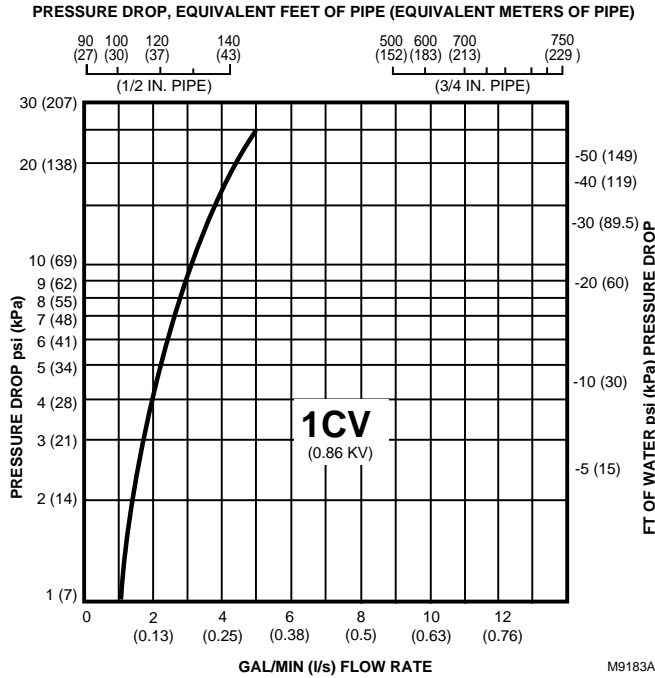

Fig. 3. Flow characteristics of 1 CV (0.86 kV) flow.
The pressure drop in psi (kPa), equivalent ft (m) of pipe, or feet of water (kPa) can be calculated from Fig. 3 through 8 as follows:
- 3 Select the graph corresponding to the  $C_v$  (kV) rating (Fig. 3 through 8).